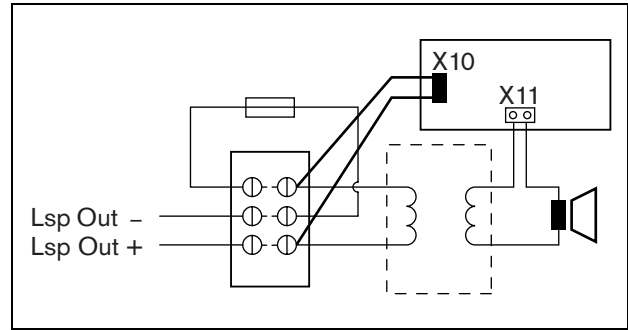

figure 12.6: Loudspeaker supervision connection
- 3 Connect the board to the loudspeaker with the flying leads and the faston connectors (see figure 12.6).